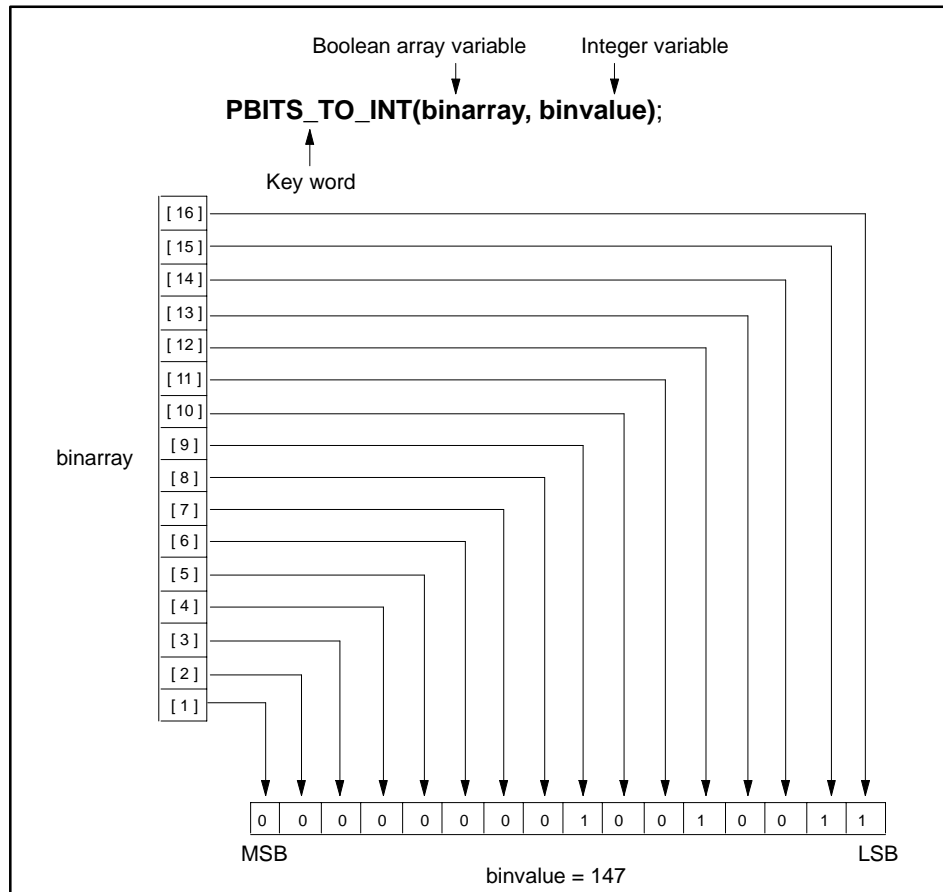

Figure 11-40 Example of PBITS_TO_INT Operation
- The integer value is the decimal equivalent of the binary value constructed from the bit values of the boolean array. For example, in Figure 11-40 the value of the integer **binvalue** is 147.